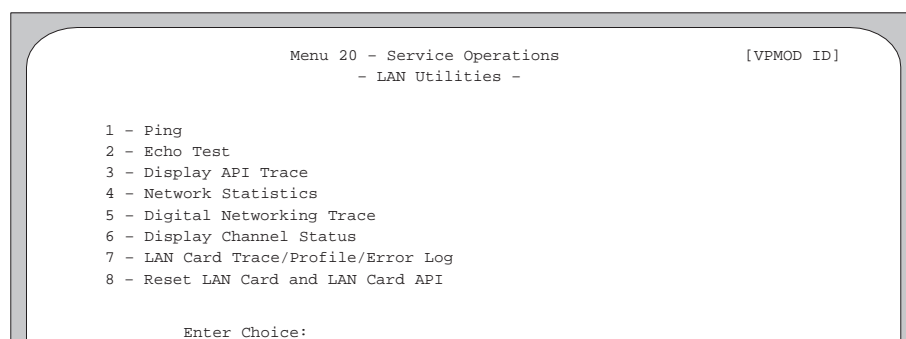

Figure 12-21. LAN Utilities Menu.
2. Access Menu 20 – Service Operations, then the LAN Utilities menu, as shown in Figure 12-21.
2. Access Menu 20 – Service Operations, then the LAN Utilities menu (Figure 12-21), then the Echo Test utility.